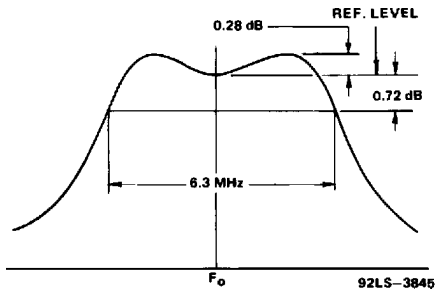

Figure 2 - Bandwidth Calculation
The maximum voltage ratings must be modified for operation at altitudes higher than sea level and for temperatures in excess of 20 °C in accordance with the curves of **Figure 2**.
15. The bandwidth of 6.3 MHz is calculated at the -0.72 dB power points of a double tuned output circuit using two times the tube output capacity and a damping factor of $\sqrt{1.5}$ as shown in **Figure 2**.